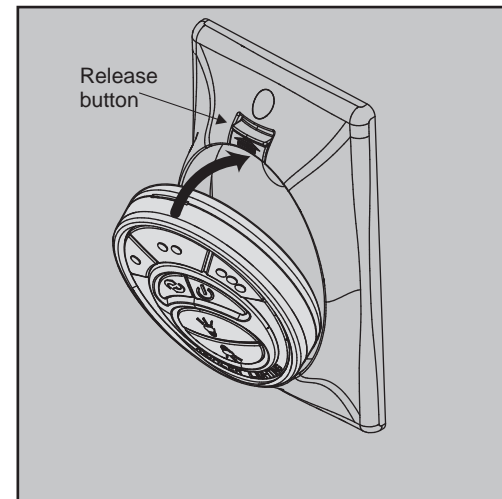

Fig. 25
Step 1. Insert the transmitter into the wall plate by inserting the bottom of the transmitter first and then press the top of the transmitter into the pocket. The transmitter will fully function from this location or you can remove the transmitter and use as a "Hand Held" device. (**Fig. 25**)